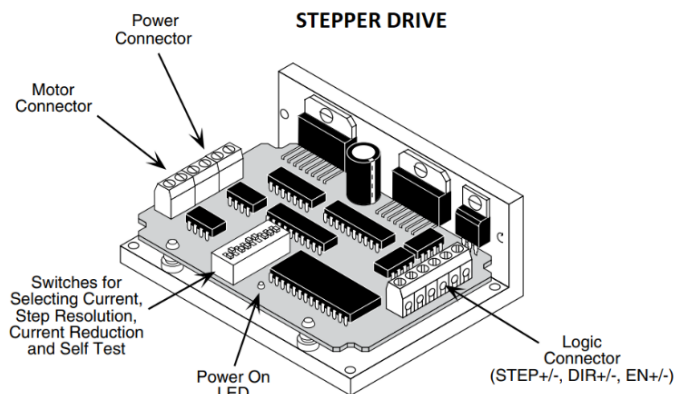

Fig. 8 – An example of DIP switches used to configure a stepper drive.
Stepper drive is customized (configured) for a particular matching stepper motor. That means the drive is capable of supporting different stepper motor sizes. We then configure it for a specific application using either driver's configuration software (provide by the drive Supplier) or by hardware DIP switches. The example below shows how the drive is configured using nine (9) DIP switches. Increasingly, these configurations are done through software instead of DIP switch settings (Fig. 8).